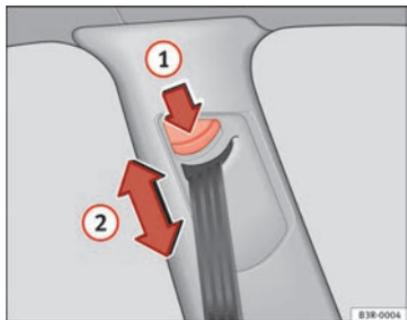

Fig. 17 Belt height adjuster
- Press button ⇒ Fig. 17 ① to adjust the belt height.
- Take hold of the top guide fitting and slide it up or down so that the shoulder part of the seat belt is positioned roughly midway over the shoulder, although **it must never rest against the neck** ⇒ Fig. 17 ② ⇒ ⚠ in Seat belt position on page 24.